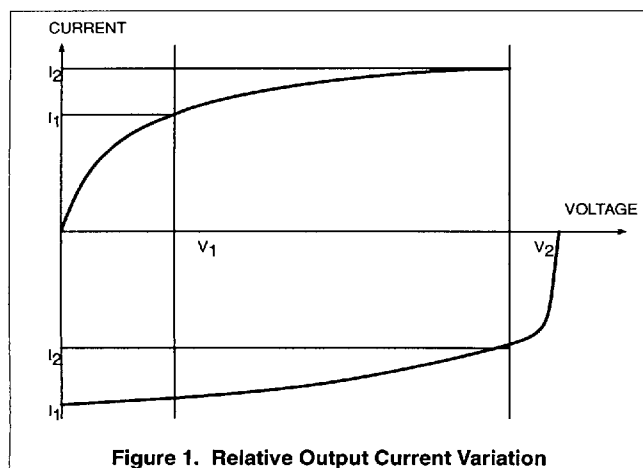

Figure 1. Relative Output Current Variation
- The relative output current variation is defined thus: $\frac{\Delta I_{OUT}}{I_{OUT}} = 2 \cdot \frac{(I_2 - I_1)}{|(I_2 + I_1)|}$; with $V_1 = 0.3\text{V}$, $V_2 = V_{CCCP} - 0.3\text{V}$ (see Figure 1).